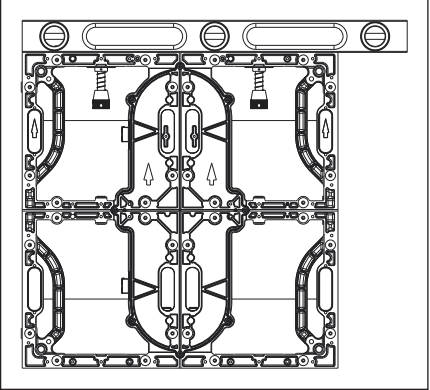

Figure 5: Install First Panel
2. Adjust the panel until it is plumb and level. Refer to **Figure 5**.